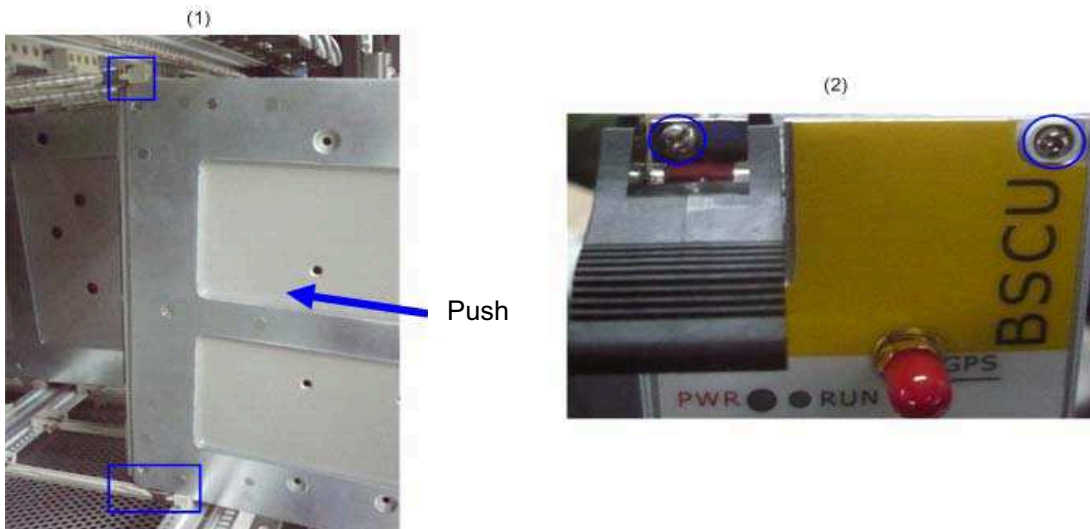

Figure 3-11 Installing the BSCU
2. Slide the BSCU along the guide rails smoothly as shown in Figure 3-11 \(1\) .
4. Tighten the two screws on the two ejectors and the board respectively as shown in Figure 3-11 \(2\) .